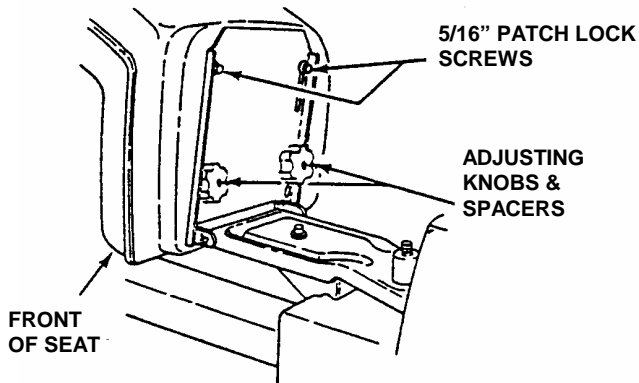

FIGURE 8
1. Fold the hinged seat plate forward and follow steps 4 through 8 in Section "OPERATOR'S SEAT, NON-HINGED MODELS" for 8 & 10HP models. See Figure 8.